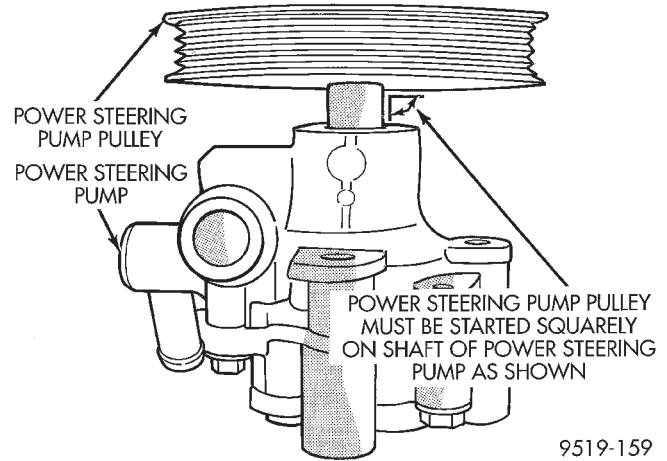

Fig. 52 Pulley Positioned On Shaft Of Power Steering Pump
(2) Place power steering pump pulley squarely on end of power steering pump shaft (Fig. 52).